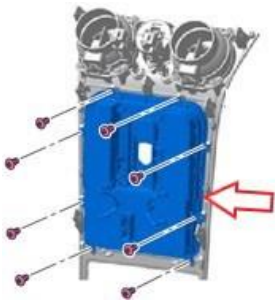

Figure 1
2) Refer to Rep.Gr 68 - Replace the centre console switch pack EX23 (Figure 1)